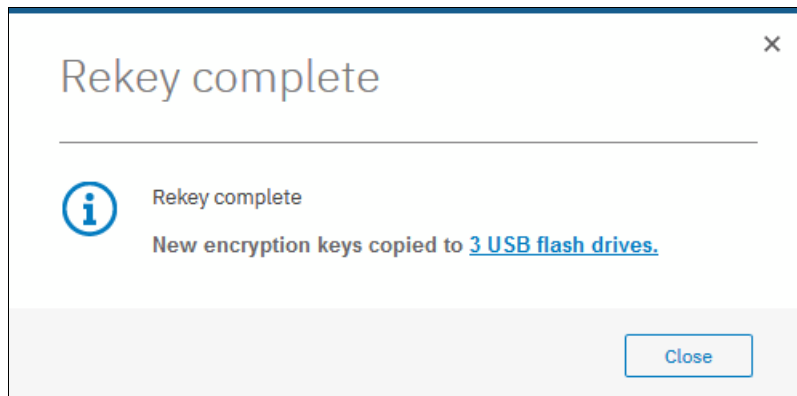

Figure 13-89 Successful rekey operation using USB flash drives
4. You should receive a message confirming the rekey operation was successful, as shown in Figure 13-89. Click **Close**.